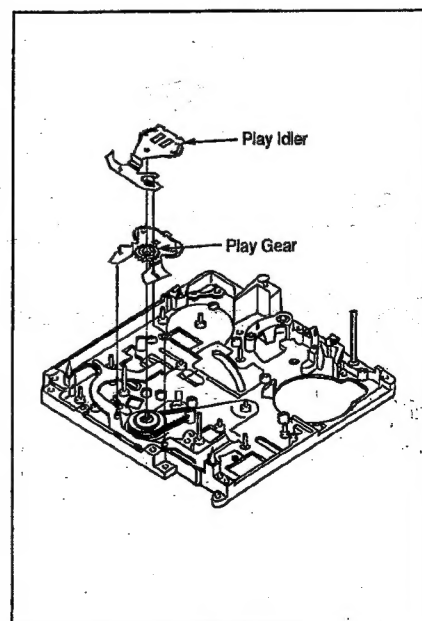

Fig. M20
- Fig. M20 Confirm the hooking portion of the Main Brake-S Spring.
10. Play & FF/REW Gear Fig. M20 Remove the Play Idler and Play Gear.